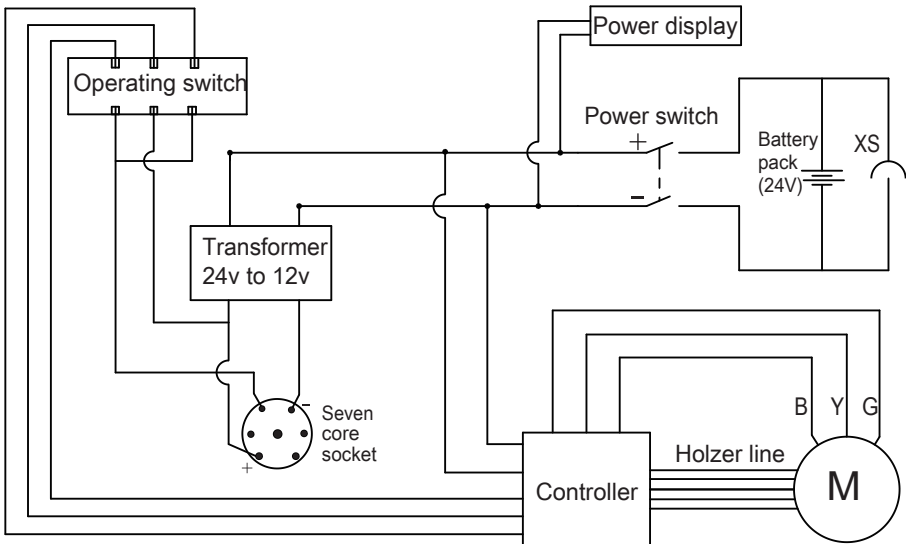

Fig. 7
5. Battery cable connection (See Fig.7)